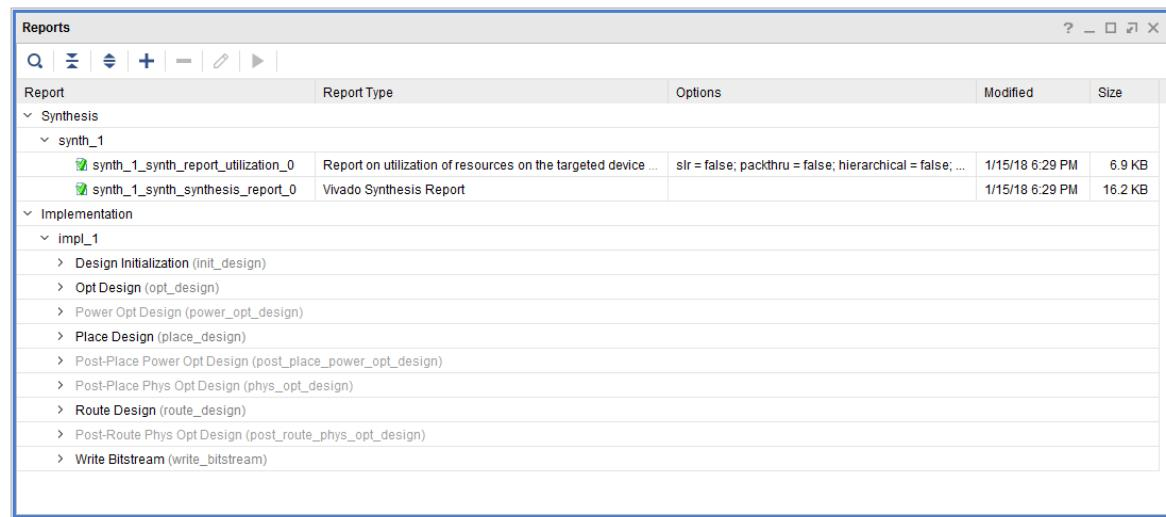

Figure 6.18: Reports tab
2. In the **Reports** tab, double-click on the **Vivado Synthesis Report** to open it and examine the report contents, see Figure 6.18.
4. In the **Reports** tab, double-click on the **Utilization Report** to examine its content, see Figure 6.18.